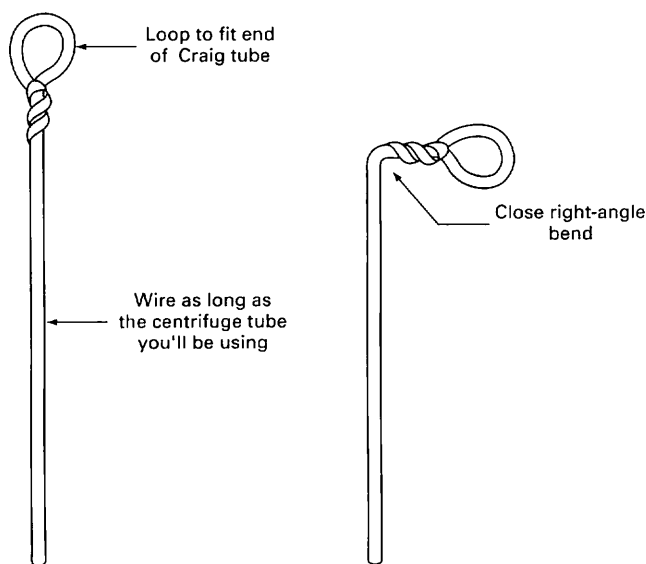

Fig. 69 Preparing wire loop for Craig tube.
4. Bend the loop so that it makes about a right angle from the wire (Fig. 69). Ready?